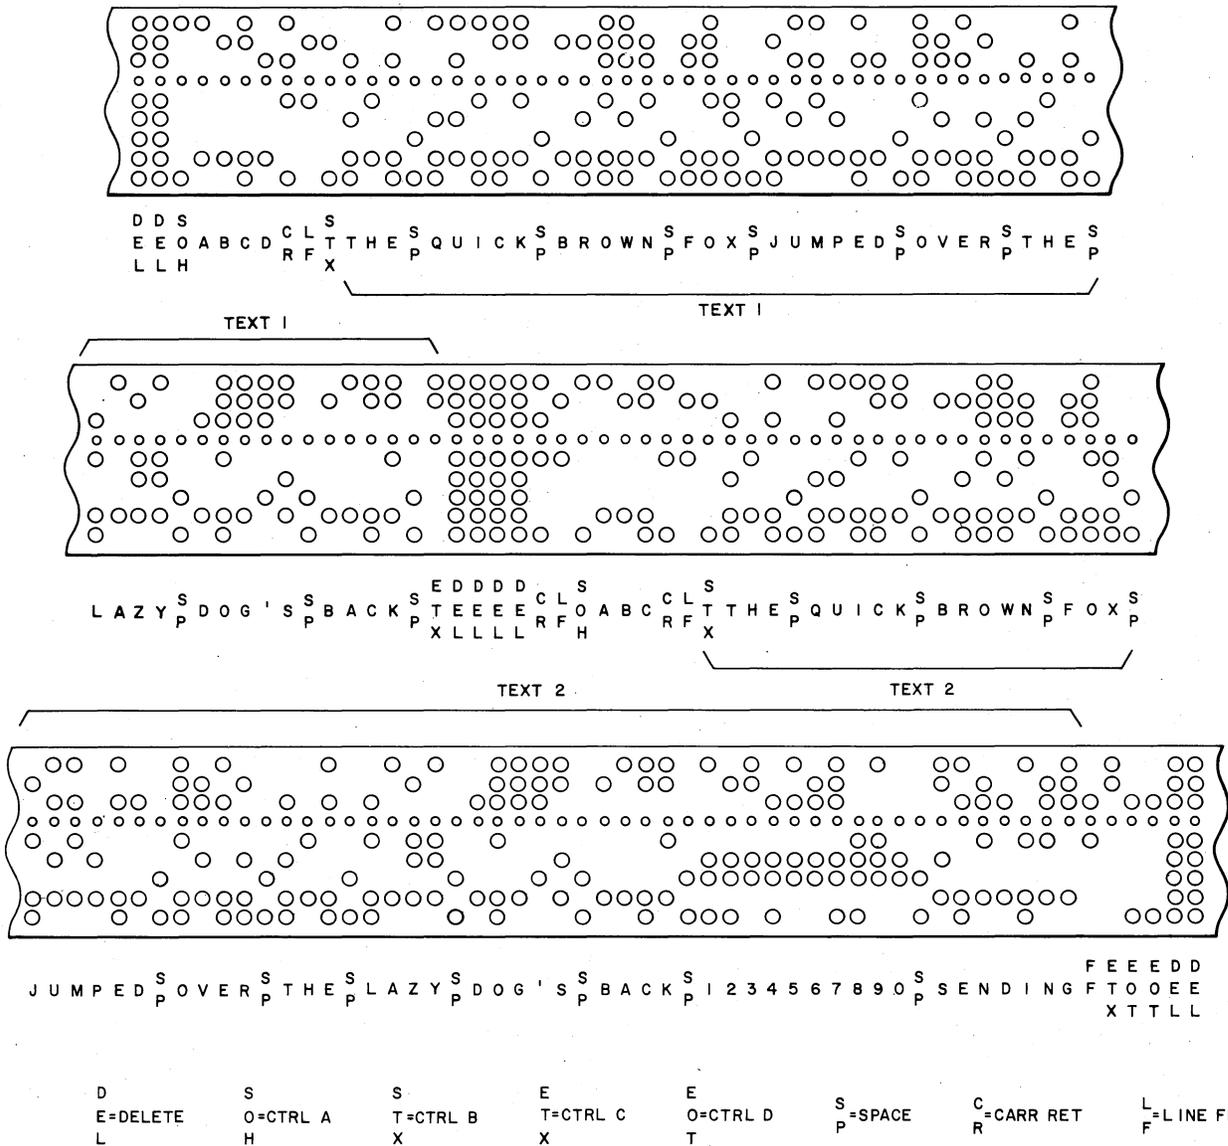

Fig. 1—Test Tape for Testing 86B1 Data Station
**3.01** Perform the following step procedure to prepare the test tape (Fig. 1) required in Test B.
3	<p>Type test tape as follows:</p> <p>DEL...DEL-SOH-A-B-C-D-CR-LF            STX-TEXT 1-ETX-DEL...DEL-CR-LF            SOH-A-B-C-CR-LF            STX-TEXT 2-FF-ETX-EOT-EOT-DEL...DEL</p> <p>Note: TEXT 1 and TEXT 2 represent any group of test characters that are sent to check the transmission. It is suggested that at least two lines of "FOX..." be used as the TEXT 1 and TEXT 2 checks. Separate each text message by inserting approximately 4 inches of DELs between the ETX and the second SOH transmission. A test tape is shown in Fig. 1.</p>